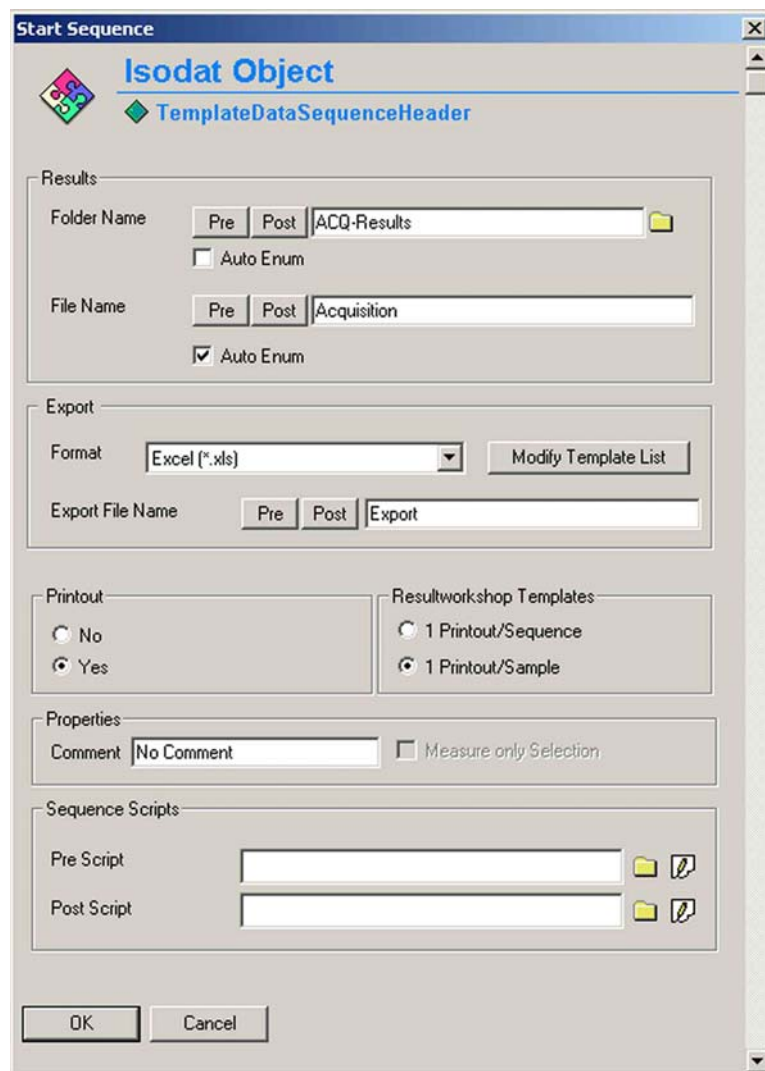

Figure 7-27. Starting sulfur measurement - defining export and printout parameters
6. Define a folder to save your result files as well as export and printout parameters. See Figure 7-27.
After finishing data acquisition the printer creates a data output sheet as defined by the selected Result Workshop template (*.irw). The results are also exported to a spreadsheet file, if the checkbox was marked in Figure 7-27.